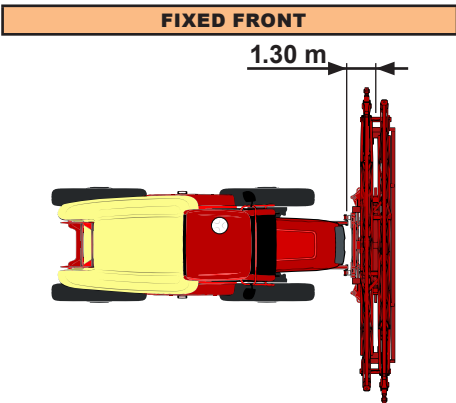
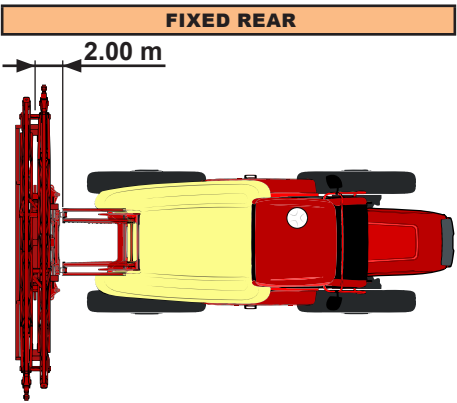

Fig. 42
Fig. 43
- Enter the measurement between the connection point of the boom and the point of application (Fig. 42) (Fig. 43).